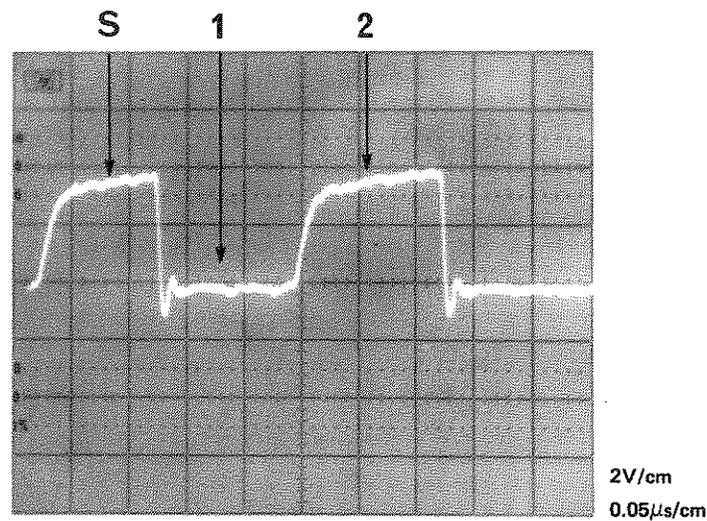

Figure 5-3 Receive Skew
10. Adjust the X-POSITION to centre the transition between bits 1 and 2 on the vertical middle line of the graticule, see Figure 5-3.